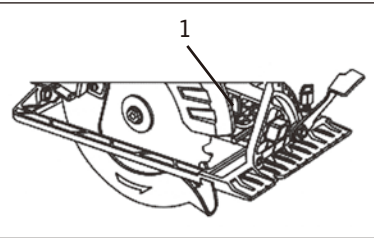

FIG. 9
The LED work-light (1) will turn ON automatically when the tool is plugged into the power supply (Fig. 9). It will turn OFF when the plug is removed from the power supply.